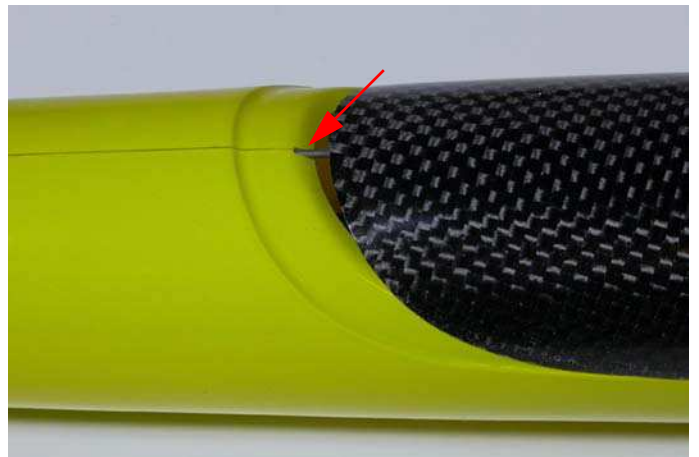

Fig.112: Canopy connection pin.
- let the canopy connection front pin slide in the point shown in figure 112;